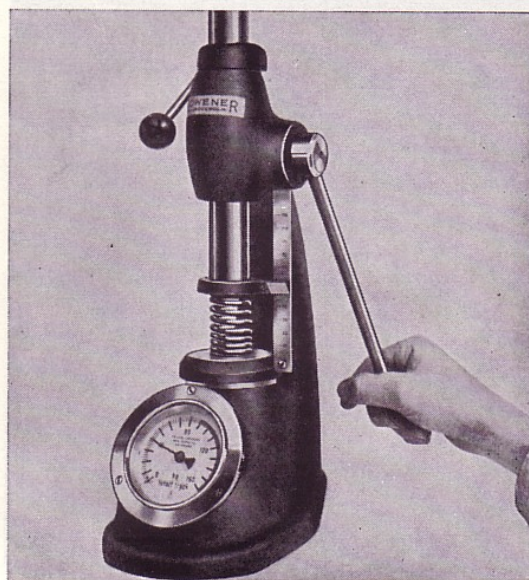

Fig. 25. Testing the springs
1. Check that the parts are in good condition and clean. Test the springs to ensure that they maintain the values given in the "Specifications". See Fig. 25.